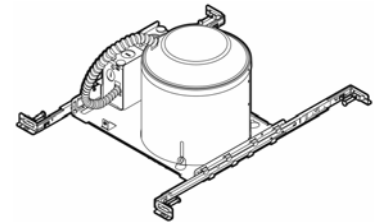

Figure 1
**Wood Joist Installation:** Extend the bar hangers to fit between the joist. Using the built in leveler (See Figure 1), line fixture up with bottom of wood joist. Using a hammer, secure the housing to the wood joist with the built in step nail.